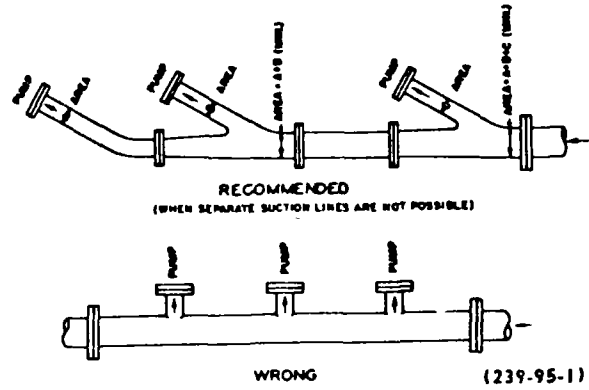

Fig. 7
- When more than one pump is operating from the same source of supply, separate suction lines, if possible, should be used. If not possible for separate lines, piping arrangement as shown in Fig. 7 is recommended.